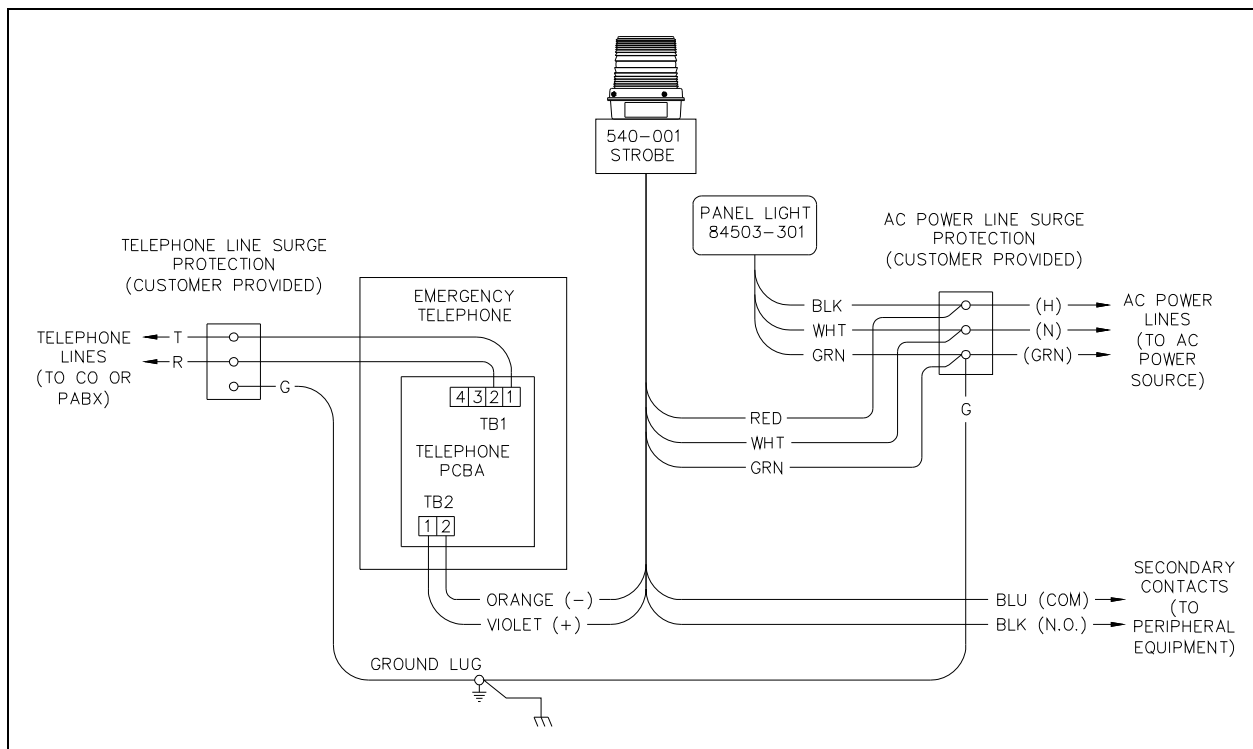
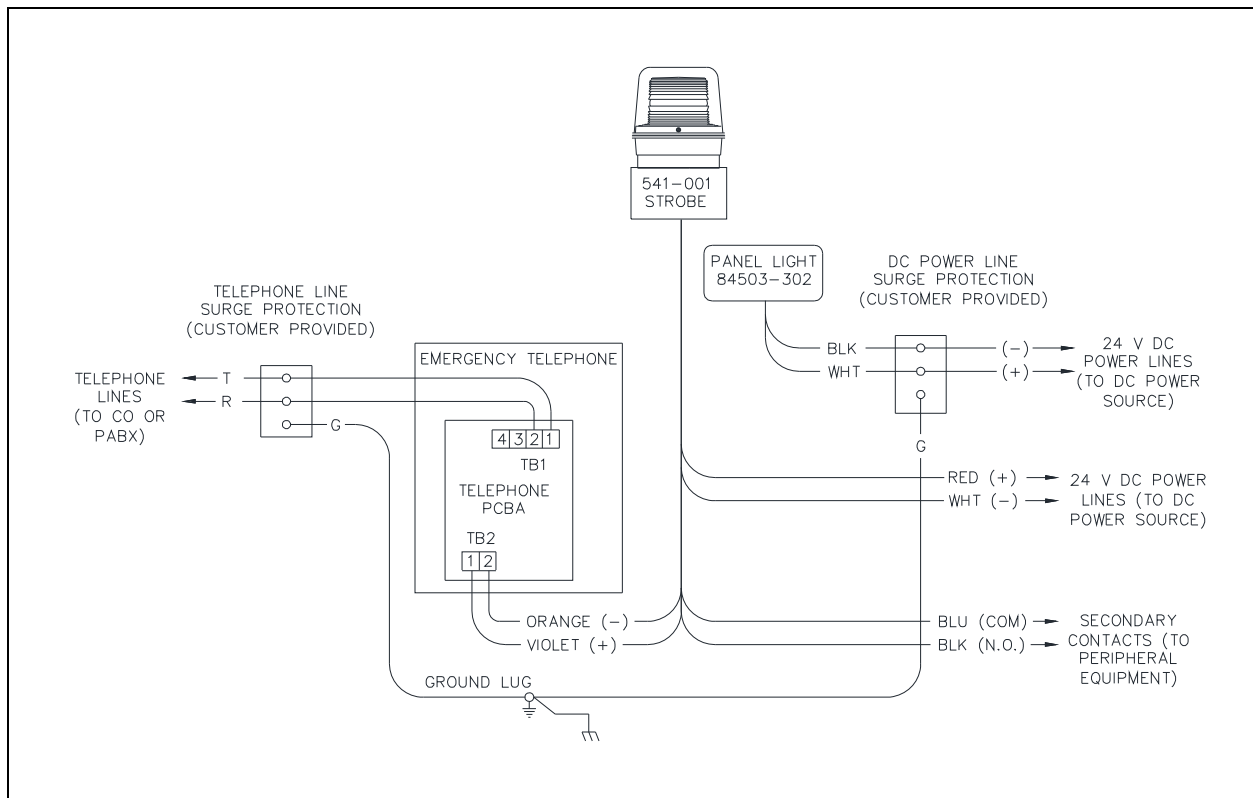

Figure 8. Interconnection Diagram with AC-Powered Strobe
Figure 9. Interconnection Diagram with DC-Powered Strobe
6. Install a ground wire between the telephone line surge suppressor (sold separately) and the grounding lug in the bottom of the station (see Figure 8).
7. Connect the telephone line to the surge protection (see Figure 8).
11. Attach the telephone cable from the surge protector to terminal block TB1 on the telephone PCBA (see Figure 8 or Figure 9).
12. Attach the strobe's violet and orange control wires to terminal block TB2 on the telephone PCBA (see Figure 8 or Figure 9).
AC installations: Install the power lines per Figure 8 for ac installations or Figure 9 for dc installations.